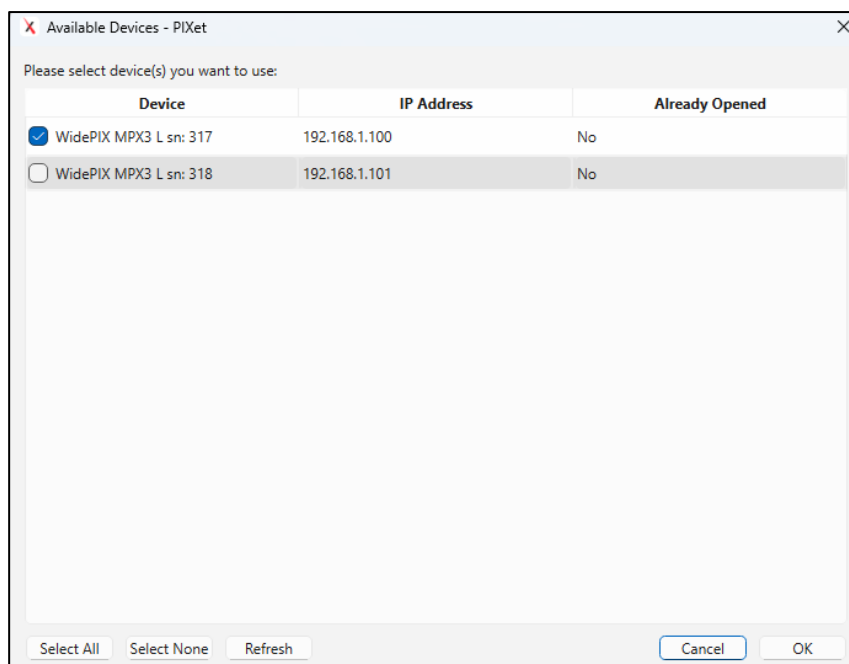

Figure 9: Available devices
2. Run **Pixet** application. A table with available devices will pop up, see Figure 9. Choose your device. If device has more column segments like **CHROMATIC 10** (Double row) and higher, you need to choose all segments and click on OK.